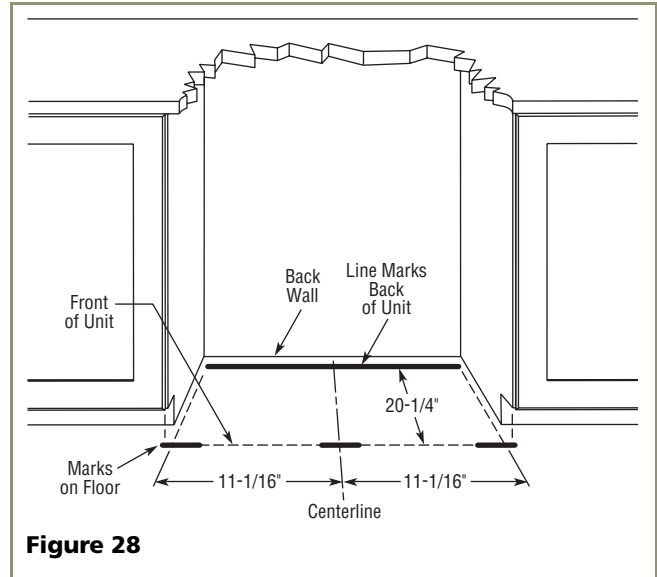

Figure 28
4. Remove the unit. Using a square, extend a centerline 20-1/4" toward the back wall. See **Figure 28**. At the back of the centerline, mark a line that measures 11-1/16" to the left and right. This line serves as the back edge for the Anti-Tip Brackets and its furthest points mark the outer edge of each bracket.